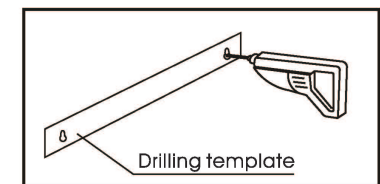

Fig.6-2
7. Rest the drilling template against the wall: The vertical centre line printed on the drilling template must correspond to the centre line drawn on the wall. Drill $\varnothing 5/16$ " holes at the indicated positions (1 hole each at left and right). (Fig.6-2)